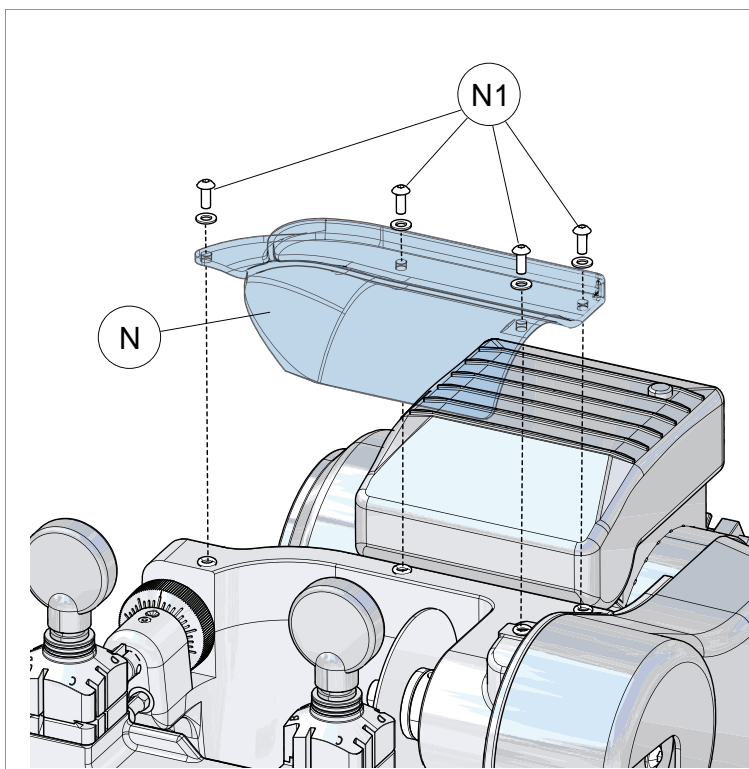

Fig. 35
- 1) Remove the cutter protective shield locking screws (N1) and remove the cutter protective shield (N) (Fig. 35).